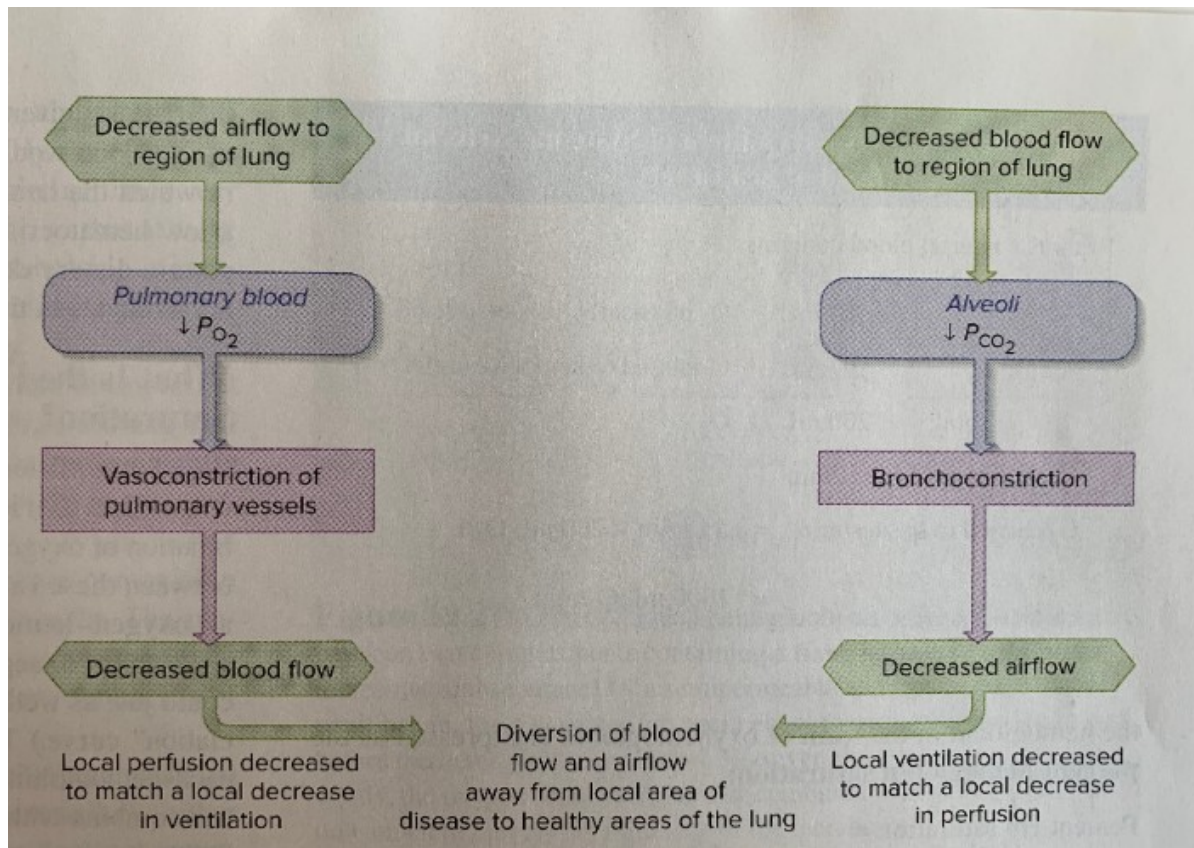

Figure 1: Local homeostatic responses to ventilation-perfusion mismatching [1]
- There are some local homeostatic responses within the lungs that can help some cases of inequalities - these can be seen in figure 1.